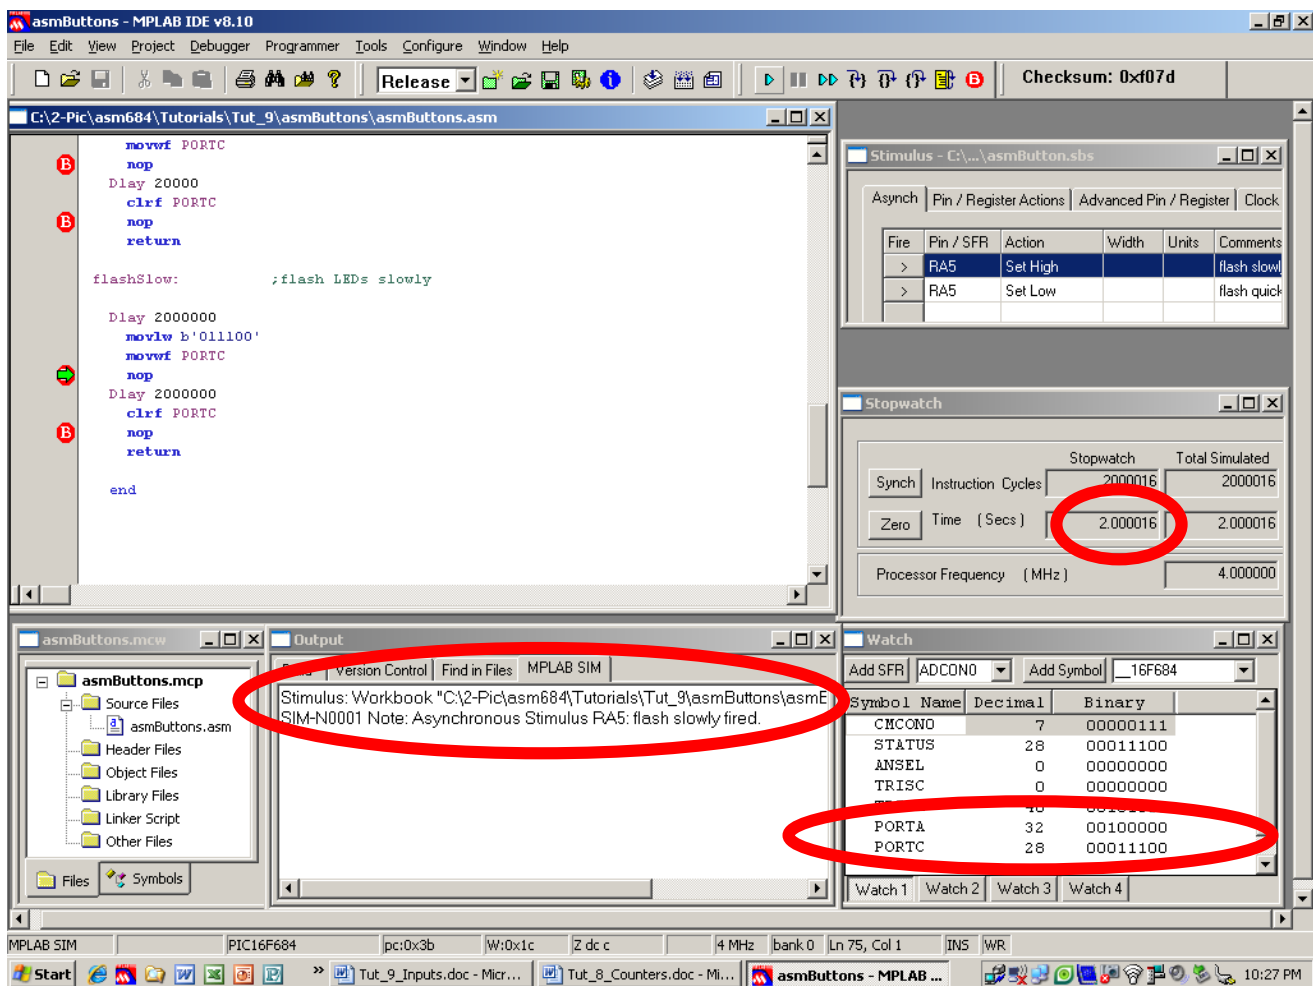

Fig 9.5
7. Verify Configuring SFRs (Fig 9.5):
8. Simulate LED flashing slowly (part 1) (Fig 9.5):